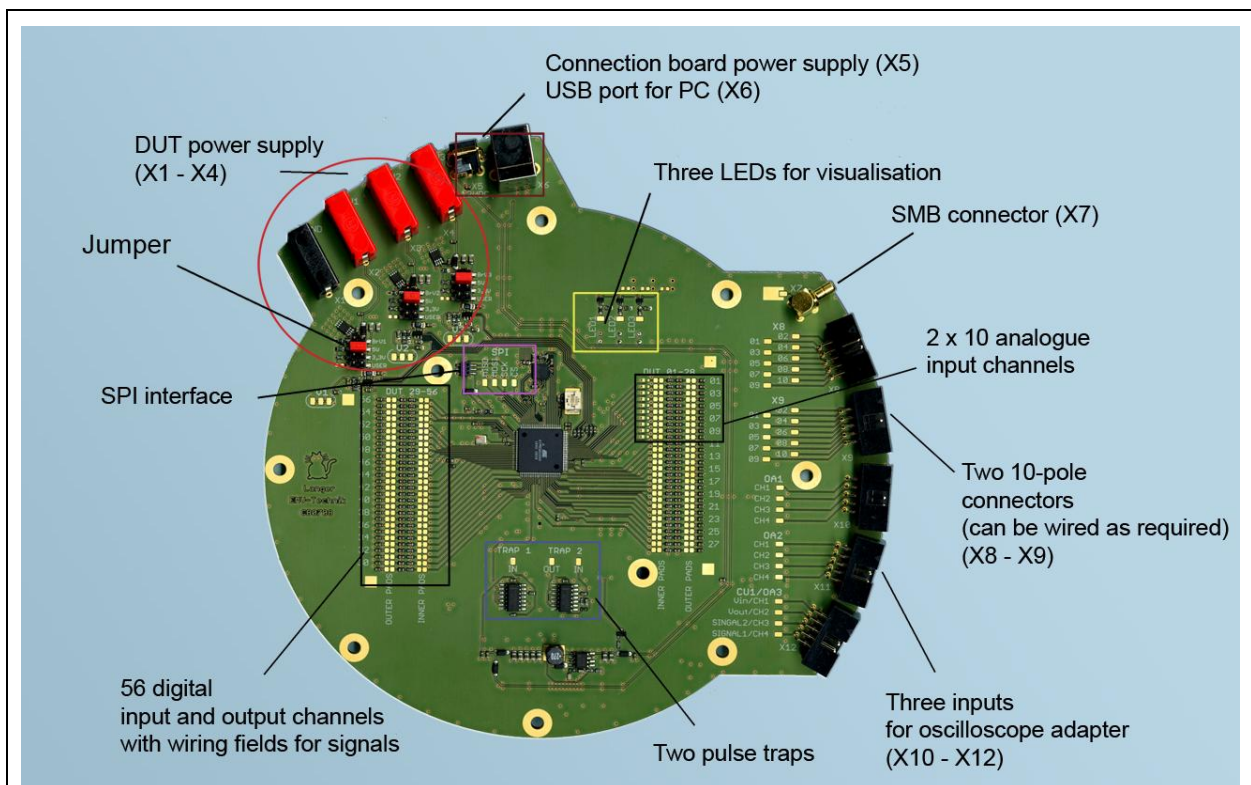

Figure 15: Functional blocks of the connection board
5. RF socket X7 on the CB 0708 connection board (Figure 15).
The oscilloscope adapter can be used within the connection board system set-up with or without a PC being connected (chapters 7.2 and 7.3). The oscilloscope adapter is connected to the sockets X10 to X12 of the CB 0708 connection board via the ribbon cable (Figure 15: Functional blocks of the connection board).
The connection board is not connected to the USB interface (X6 - Figure 15) of the PCs in this mode of operation. Power is supplied via the external 12 V power supply unit (connection board power supply X5 - Figure 15) for the whole connection board.
In addition, the test IC can be controlled and monitored with external devices via the sockets X7 to X12 (Figure 15). The SGA 30 and SGA 45 probe adapters, the TH 22 probe head holder with the respective measuring devices and the OA 4005 oscilloscope adapter can be used for monitoring purposes.
Figure 15 shows the connection board's functional blocks.